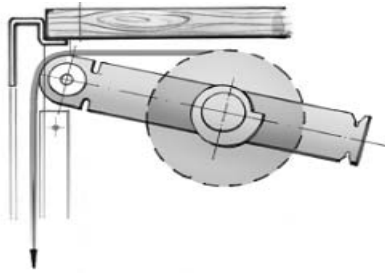

Fig 13
- Pre-tension the rolled up tambour door profile in a counter-clockwise direction as shown in Fig. 13.